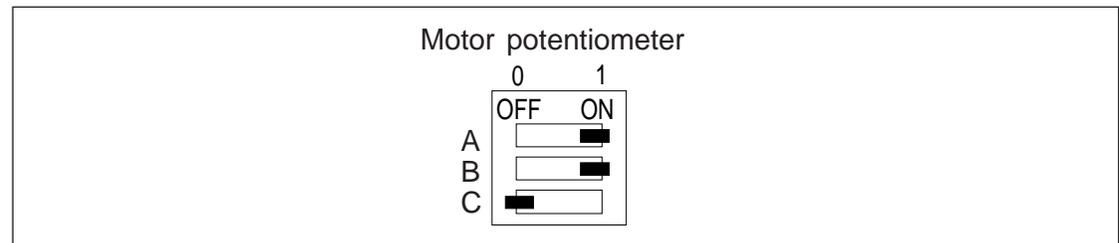

Figure 4-6. Motor Potentiometer switch S1 selection.
- Motor Potentiometer (refer to figure 4-6 and table 4-8 page 22)